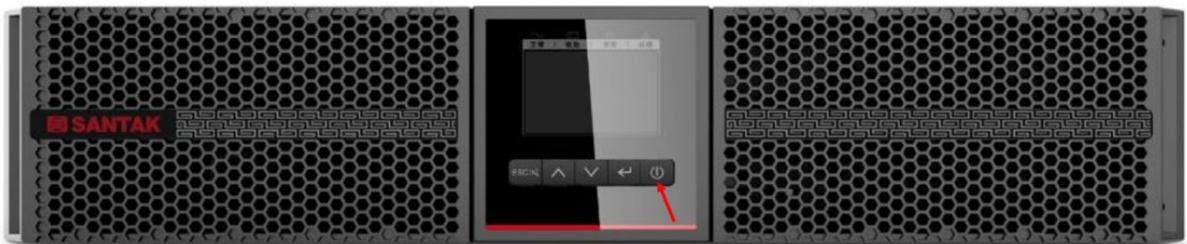

Figure 5-1 Power on UPS
4. Long press the UPS OFF button for 3 seconds to shut down the UPS. See Figure 5-1.